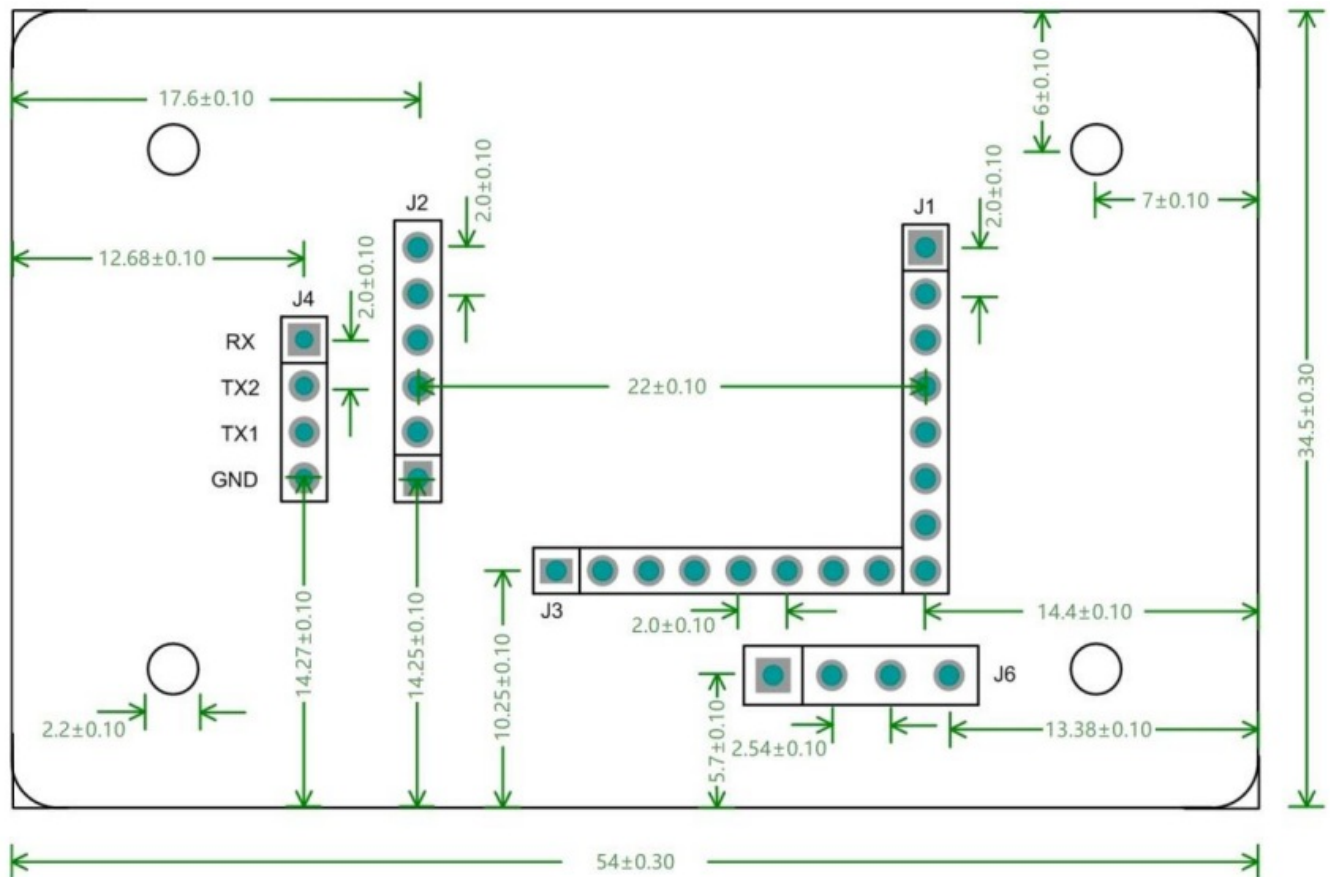

Figure 7 ZLG600A dimensions
2.0mm pin joint J1, J2, J3, J4 pad aperture: 0.7mm; 2.54mm pin interface J6 pad diameter: 0.9mm. The four corner mounting holes are symmetrical in structure and have the same diameter. Refer to Figure 7 for size of ZLG600A. Unit: mm